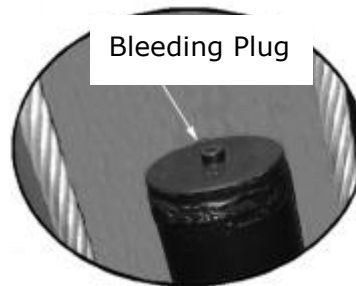

Fig. 53
3. Exhaust air from cylinder(See Fig. 53)